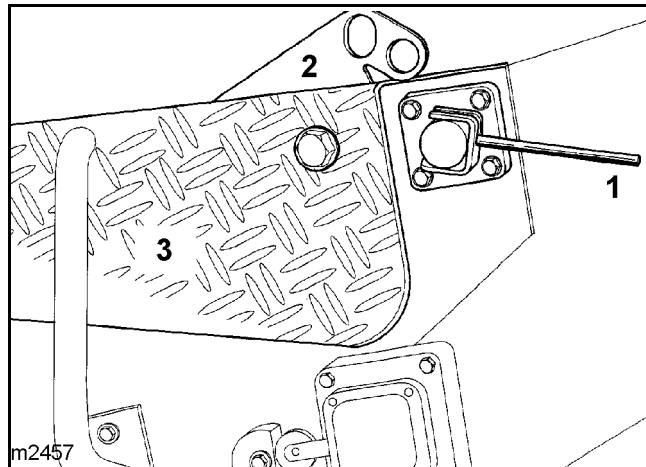

Fig. 182 Covering for hopper
- Unlock the safety bolt (1) (**Fig. 182**).
- Lift the cover (3) until the bolt can be slid into one of the holes on the locking bar (2).
The locking bar (2) (**Fig. 182**) has two holes because the possible opening angle of the cover varies in some machines.